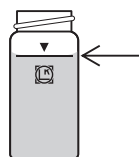

Fig.6
5. Fill the cell with 25 mL of new sample (up to the line). (Fig.6)